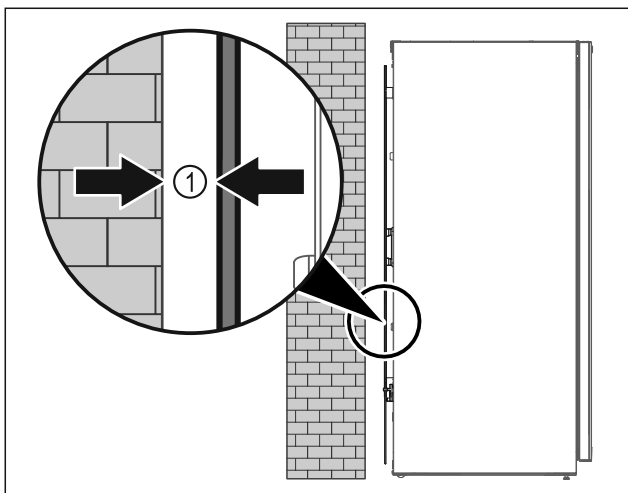

Fig. 37
- Set up the appliance either free-standing or directly against a wall at a minimum distance of 5 mm Fig. 37 (1).